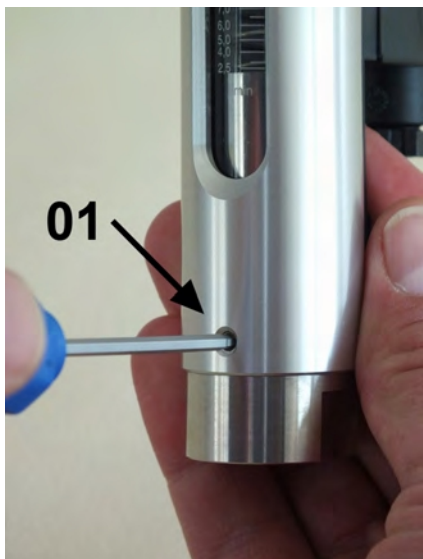

Fig. 46: Secure the process connection (inlet)
- 9.** ➤ Secure the inlet process connection to the device housing with 3 hex socket screws (Fig. 46/01), observing the proper torque.